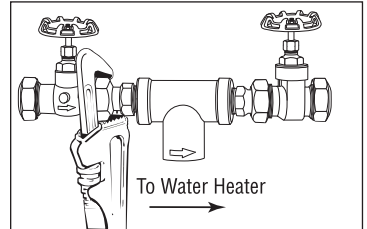

Figure 5
- Tighten all compression nuts firmly, keeping the AP430SS head assembly vertical. (Figure 5)